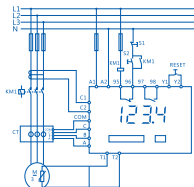
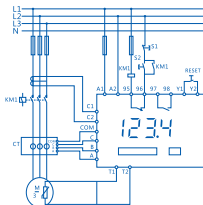

Figure 6 Wiring Diagram for Control Power Supply Voltage of AC220V and Rated Operating Voltage of AC220V
Figure 9 Wiring Diagram for Control Power Supply Voltage of AC 380V and Rated Operating Voltage of AC380V
3.5 Wiring diagram of the protector: see Figure 6~ Figure 9.